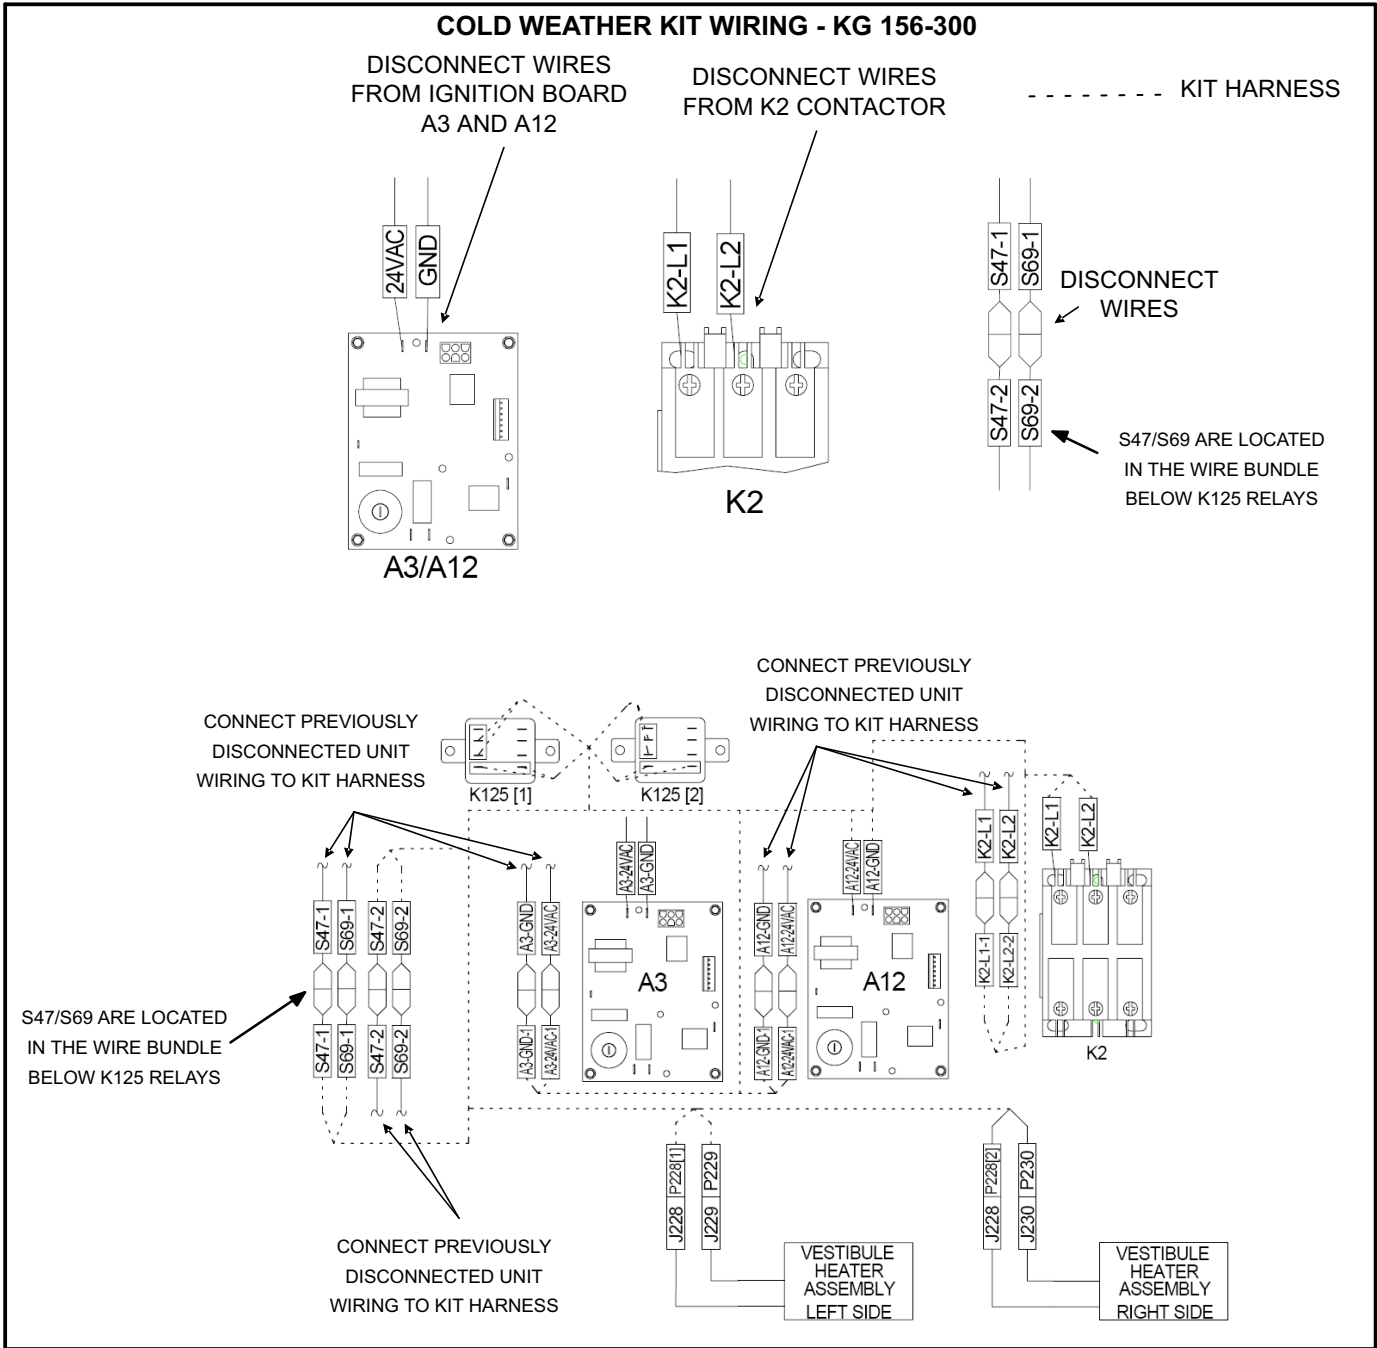

FIGURE 12
- 5- Make wire connections as shown in figure 12.